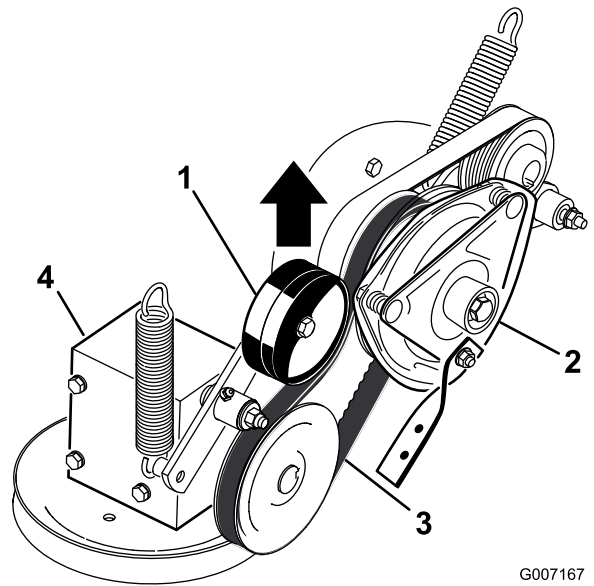

Figure 56
5. Pull up on the spring loaded idler pulley for the PTO drive belt and remove the belt from the clutch pulley (Figure 56).
17. Pull up on the spring loaded idler for the PTO drive belt and install it onto the clutch pulley (Figure 56).